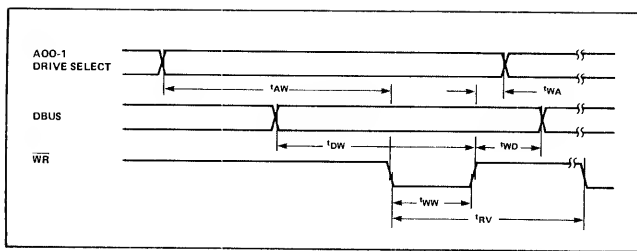

Figure 3-32. Register Load Timing
1. **Register Load Timing** Register load timing is shown in Figure 3-32. The AC characteristics are listed in Table 3-8.